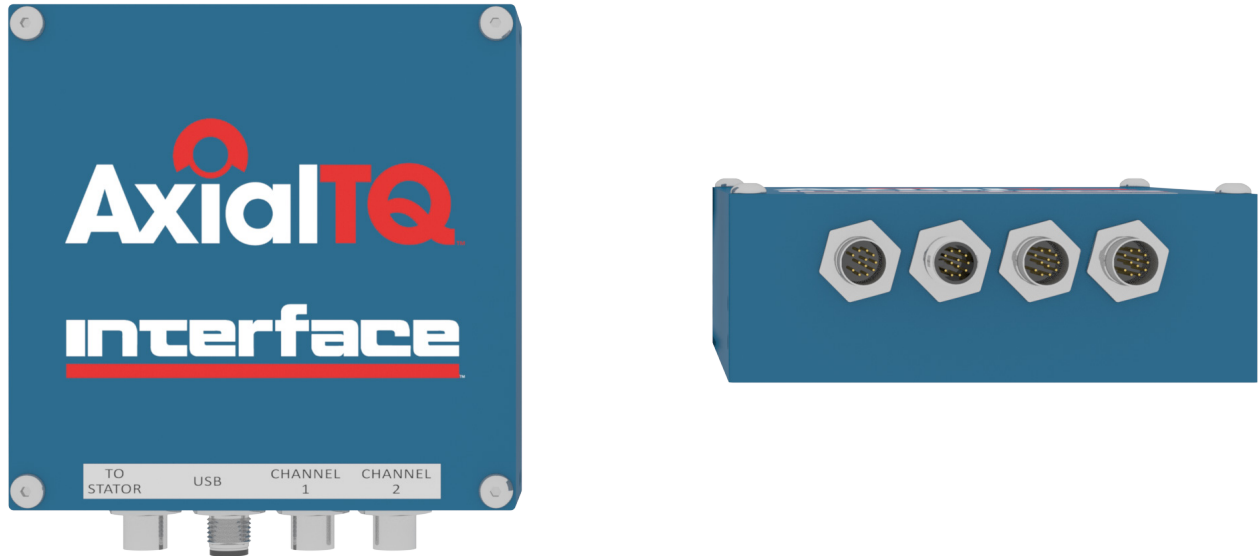

Figure 7
13.1 Attach the cables to the output module. See *Figure 7*.